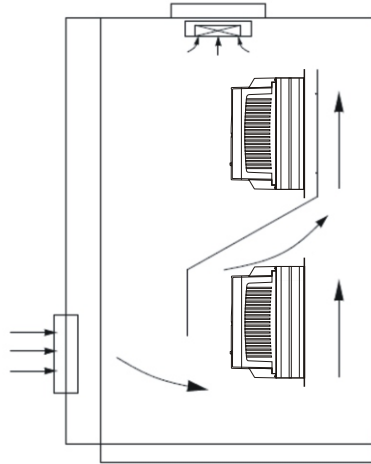

Fig. 3-2 Installation of multi inverters
Note: When the inverter is installed vertically, please mount a heat-insulated baffle shown as fig. 3-2.
1) The inverter should be installed vertically, which enables the heat to emit upwards easily, but it should not be mounted reversely. If many inverters need to be installed in a cabinet, you'd better install them side by side. If the inverters need the top and bottom installation, please mount a heat-insulated baffle shown as fig. 3-2.